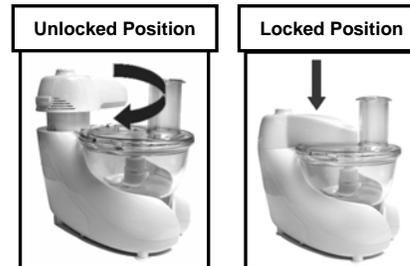

Fig. 6
6. Turn the swivel head clockwise until it stops turning and push down until it "clicks" into place. (Fig. 6)